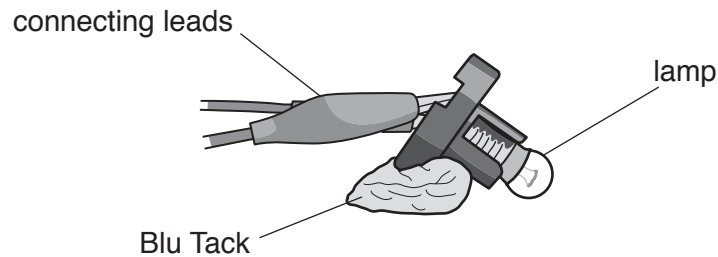

Fig. 3.1
1. One small torch lamp, of approximate diameter 1 cm, 2.5V, 250 mA, filament indicator lamp, clear, e.g. RS 106-313, placed in a lamp holder e.g. RS 171-2503. The lamp holder must be fixed to the bench with a piece of Blu Tack and tilted as shown in Fig. 3.1.